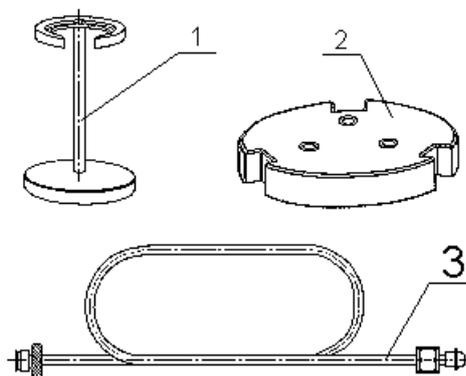

Fig. 4
- 2) stand (fig.4 pos.1)
- 3) calorimetric bomb opener base (fig.4 pos.2)
- connection pipe (fig.4 pos.3)